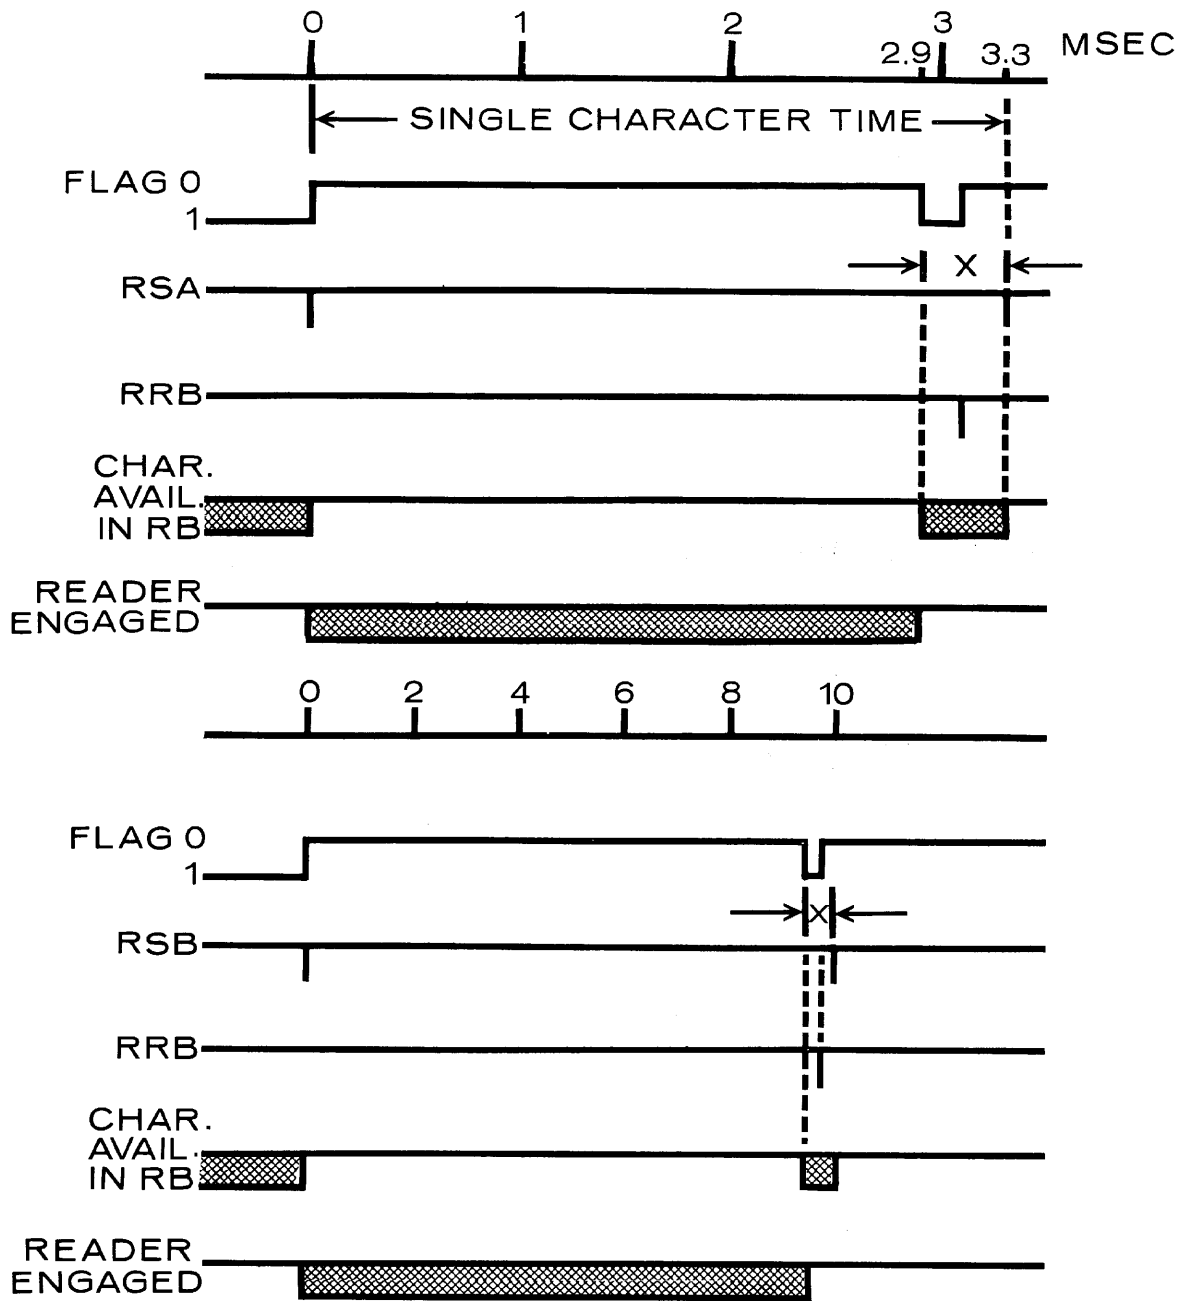

Figure 13 Perforated-Tape Reader timing
In addition to the reader movement control logic, the control unit contains an 18-bit Reader Buffer (RB) which can collect 1 or 3 lines from the tape. The C(RB) can be read into the AC. The Reader Flag becomes a 1 when a character or word has been assembled in RB. A timing diagram of the Reader operation is shown in Figure 13.